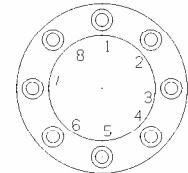

Figure 2
- 7** Check again if the torque of the bolts is equal to the torque shown in the table by executing 2.5 revolutions clockwise (see Figure 2).